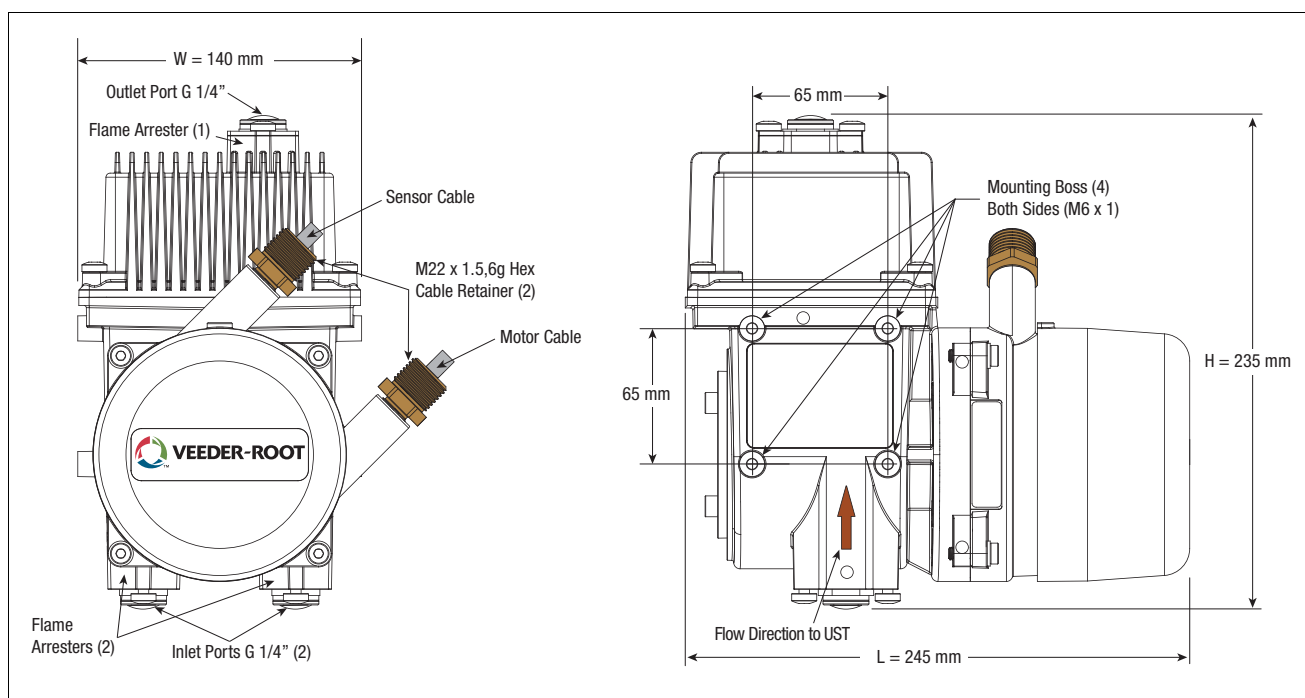

Figure 2. VaporTEK Pump Dimensions
4. Vapor flow is from the nozzle through the vapor pump to the UST (See Figure 2 for flow direction).